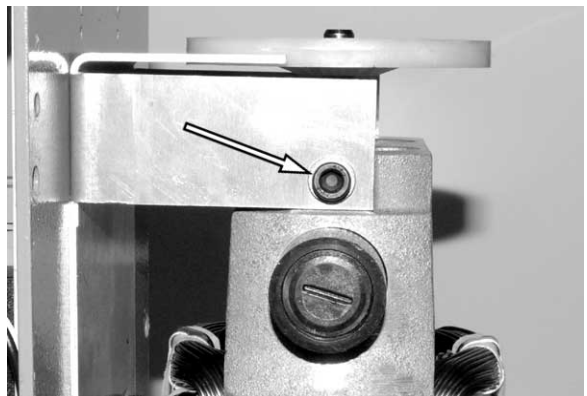

Figure 30.
7. See Figure 30. Remove the two baffle bracket to motor bolts (one each side) and position aside the electrical bracket.